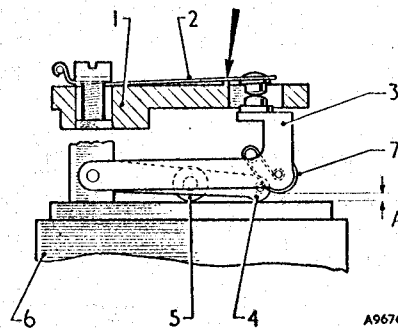

Fig. 14. The contact gap setting on earlier-type rocker assemblies
30. Check the gap between the points indirectly by carefully holding the contact blade against the rib on the pedestal without pressing against the tip (see Fig. 14). Then check if a .030 in. (.8 mm.) feeler will pass between the fibre rollers and the face of the coil housing. If necessary the tip of the blade can be set to correct the gap.